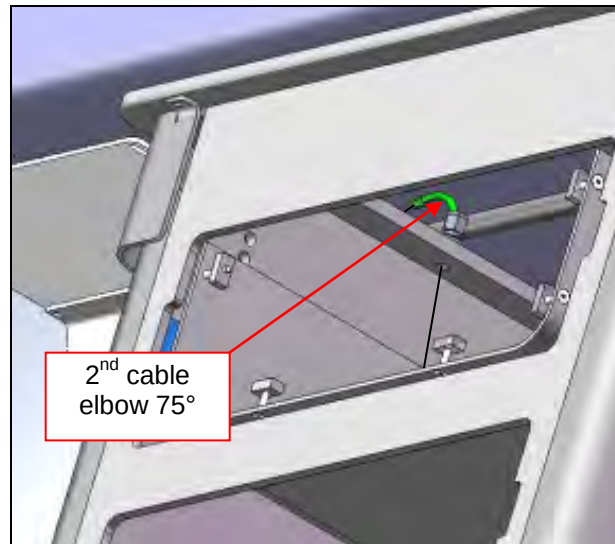

Figure 137
3. Remove the top drawer from LBS to expose the second 75° cable elbow (Figure 137).